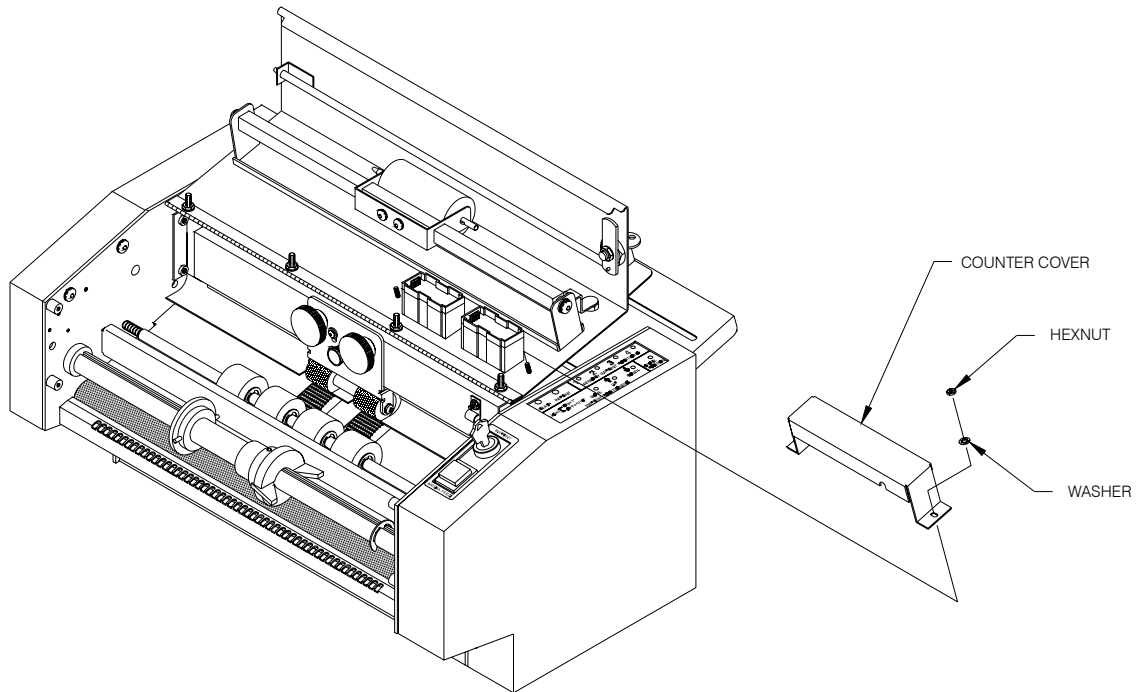

Figure 7.4 -- Replacing the Counter
2. Remove COUNTER COVER. (Refer to **Figure 7.4.**)